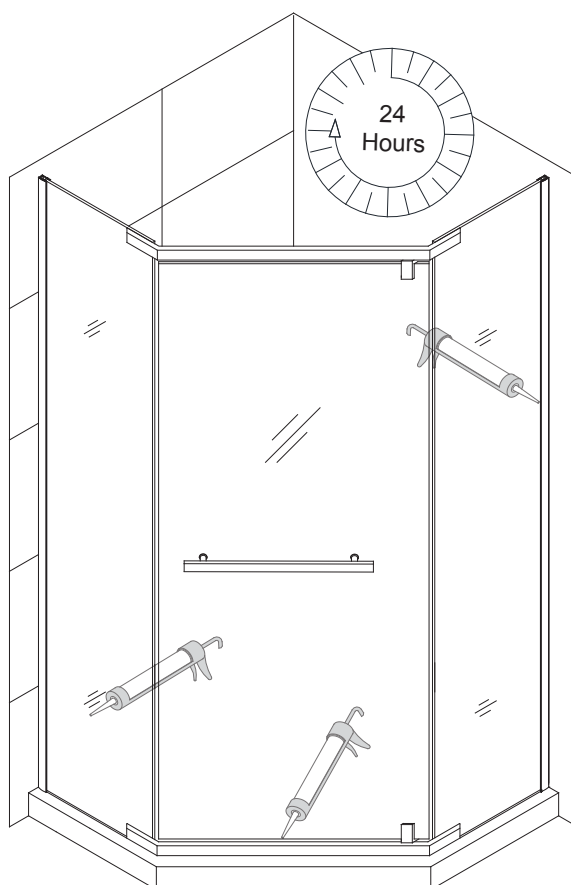

Fig 10
- 10.** Apply a good quality mildew-resistant silicone along the interior edges of the **Panel Glass (#03)**, **Wall Profiles (#02)** and **Pivot Bar (#05)** to seal against the walls and threshold. (**Fig 10**)